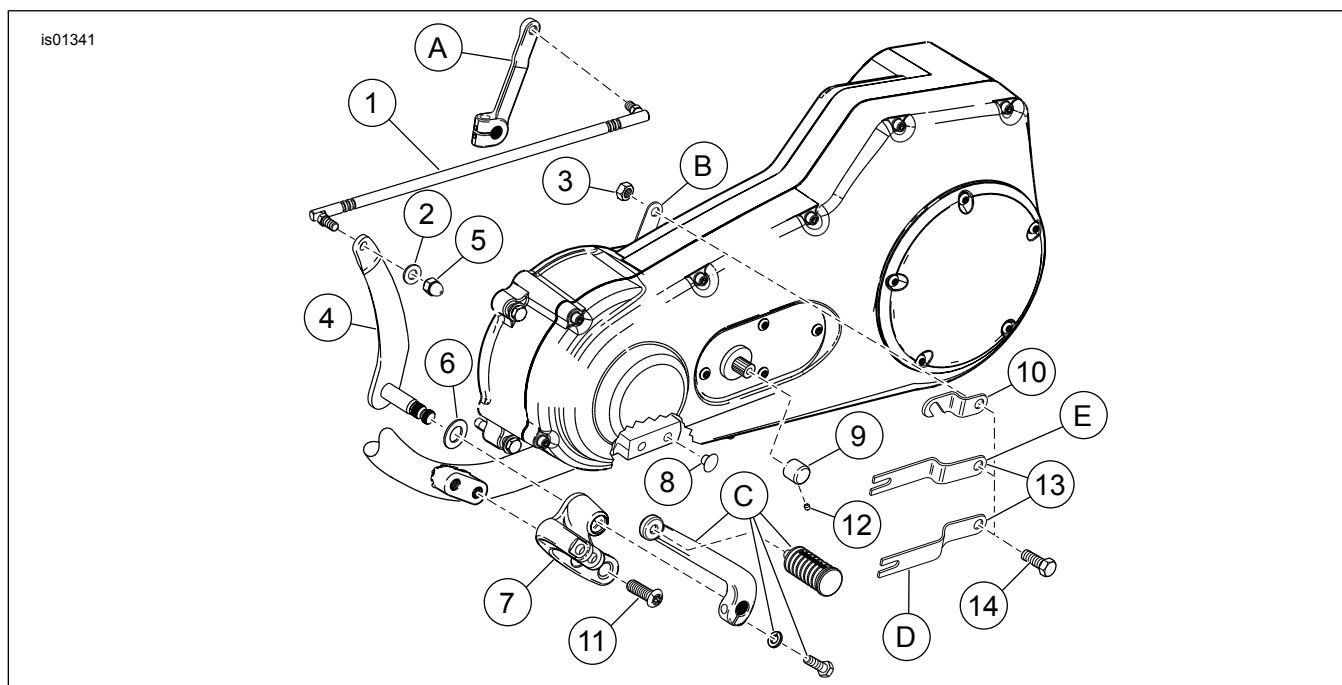
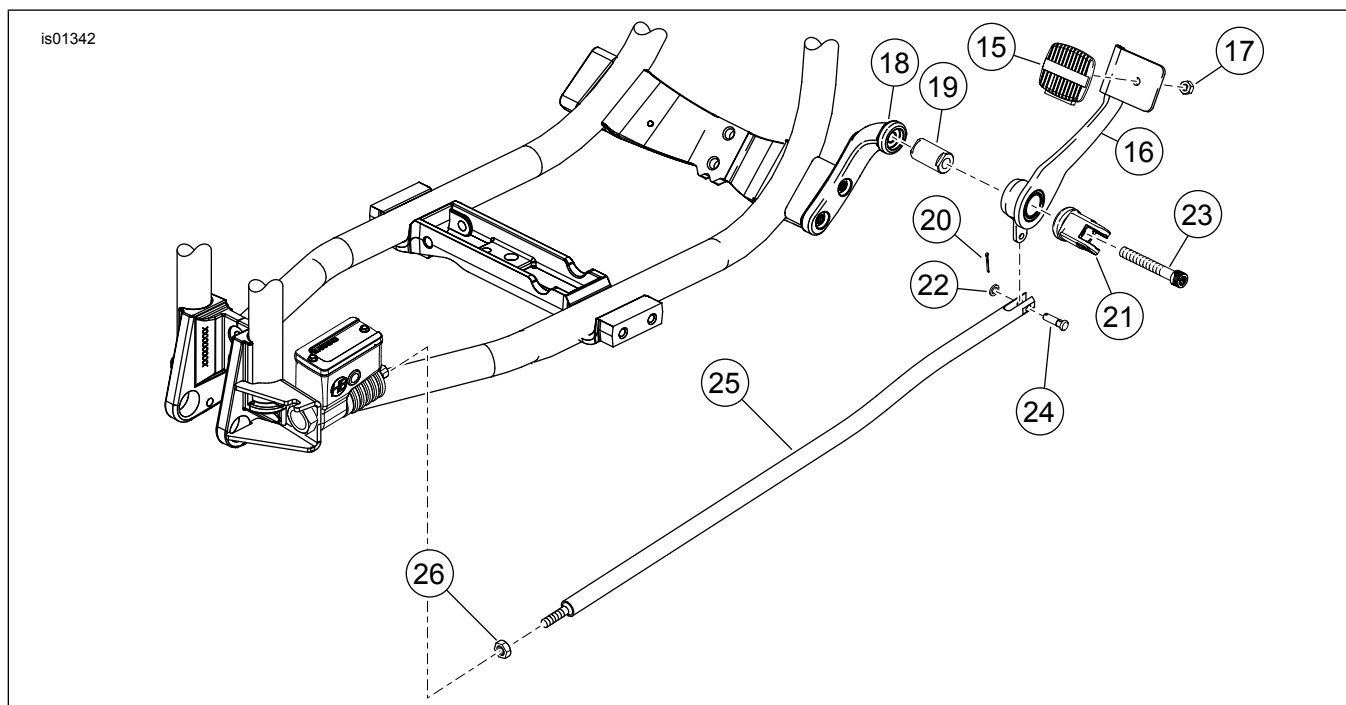

Figure 1. Service Parts for FXD Forward Foot Controls (Shifter Side Parts)
Figure 2. Service Parts for FXD Forward Foot Controls (Brake Side Parts)
See the Figure 1 and Figure 2. The mounting brackets and clevis (7, 18 and 21) may also be purchased separately to upgrade the standard FXDWG to this chrome kit.
1. See Figure 1. Remove the left side rider footpeg assembly. Save the footpeg and fasteners for installation. Discard the remaining hardware.
2. Push hole plugs (8) into the screw holes on the frame where the stock footpeg assembly was mounted.
1. See Figure 2. Remove the right side rider footpeg. Save the footpeg and fasteners for installation.
2. Loosen the brake rod jamnut (26) at the rear brake master cylinder.